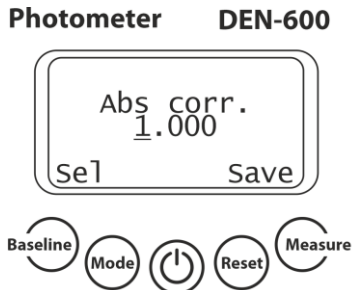

Figure 6. Abs correction coefficient setting window.
- 5.10 **Abs correction coefficient (Figure 6).**